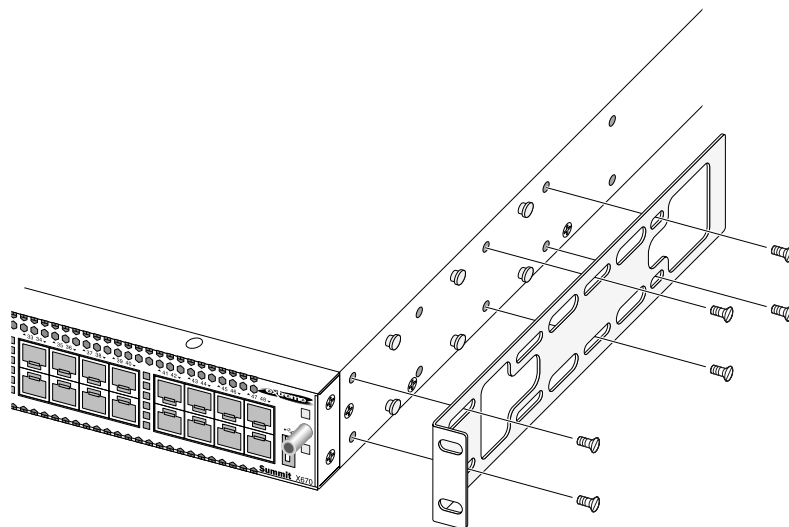

Figure 291: Attaching a Rack-mounting Bracket (X670 shown)
- a Set the bracket against the switch housing, with the flange even with the front panel of the switch (see Figure 291: Attaching a Rack-mounting Bracket \(X670 shown\) on page 317).